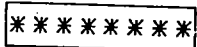
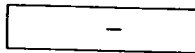

Fig. 38
Fig. 39
- N.B. 1. If no keys were operated for more than 10 seconds after the power is ON, display of Fig. 38 is replaced by that of Fig. 39.